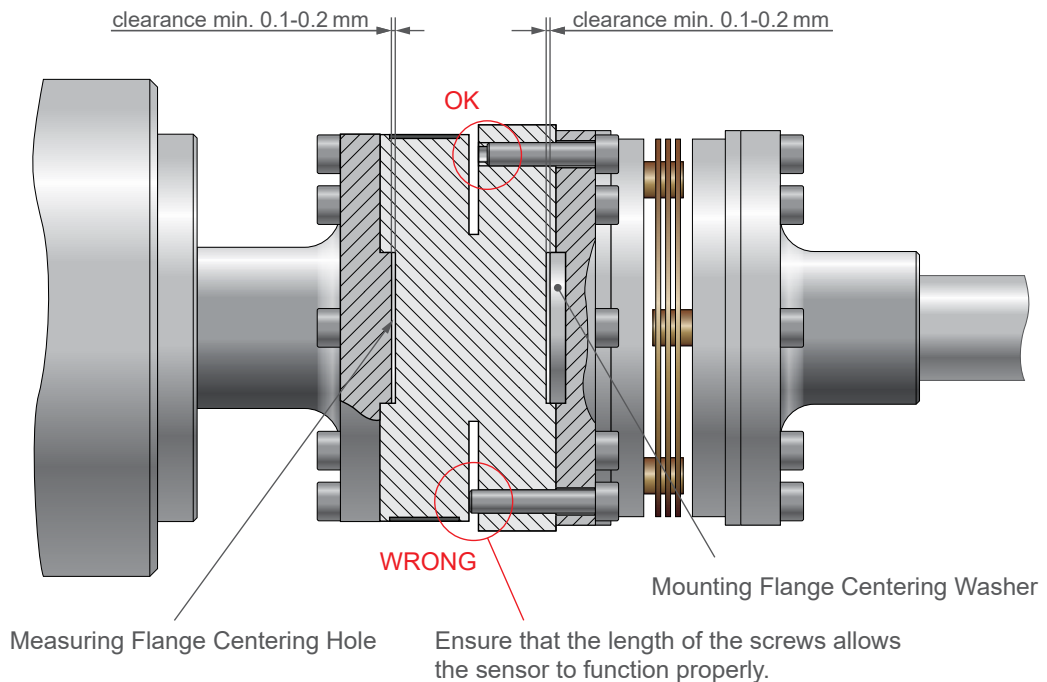

Fig.2-9 Mounting information regarding centering washers and the length of the screws
If the mounting flange is also fitted with a centering bore, an intermediate centering washer may be used (see Fig.2-9).
- Check the lengths of the screws and be sure to avoid any contact between the screws and the opposite part of the measuring flange (see Fig.2-9).